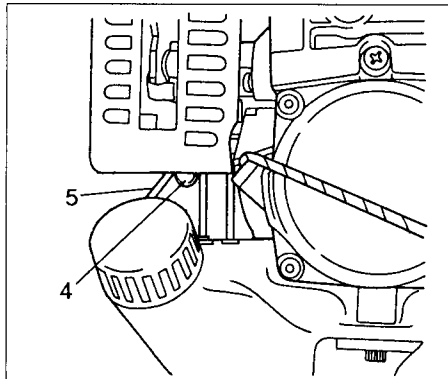
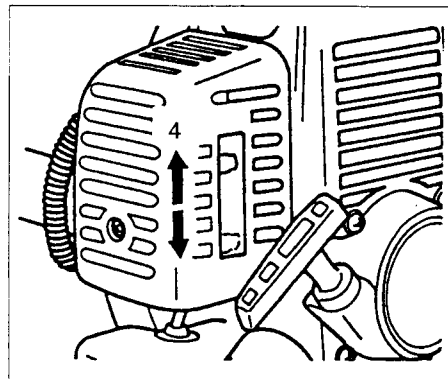

Fig. 2-2C
Fig. 2-3
- * Push priming bulb (4) several times so that fuel flows through return pipe (5) (if so equipped)(Fig. 2-2C)
2. With the safety trigger (2) pressed (if so equipped), pull throttle trigger and push throttle lock (3), then slowly release the throttle trigger first, then the safety trigger. This will lock the throttle in starting position.
3. Set choke lever to CLOSED position (4). (Fig. 2-3)